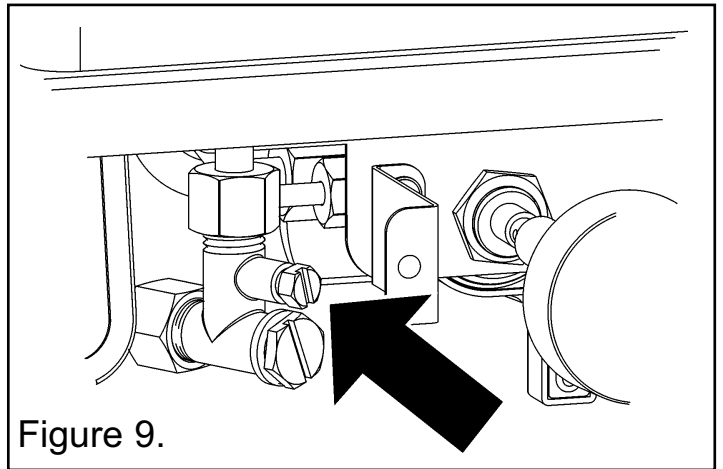

Figure 9.
– Check the inlet pressure by fitting a pressure gauge at the test point. The test point is on the inlet 'T' connector (See figure 9). Check the pressure with the appliance alight and set at maximum output.